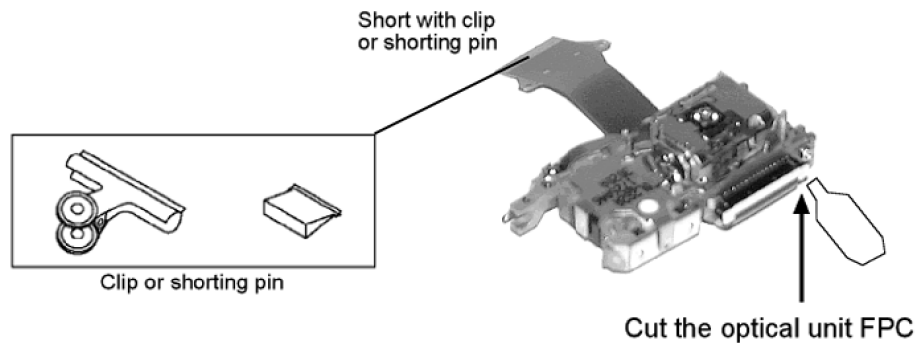
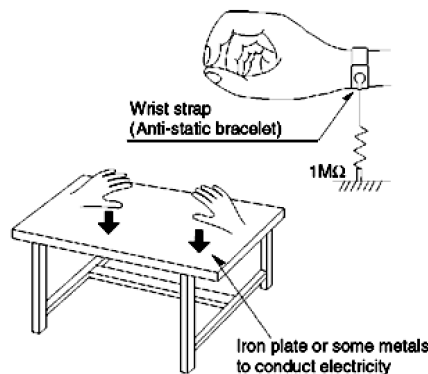

Fig. 7.1
Fig. 7.2
2. Short-circuit the flexible cable of optical pickup remove from the circuit board using a short-circuit pin or clip in order to prevent laser diode from electrostatic destruction (Refer to Fig. 7.1 and Fig. 7.2)
3. Do not handle flexible cables forcibly as this may cause snapping. Handle the parts carefully (Refer to Fig. 7.1)
4. A new optical pickup is equipped with an anti-static flexible cable. After replacing and connecting to the flexible board, cut the anti-static flexible cable. (Refer to Fig. 7.1)
Use the anti-static wrist strap to discharge the static electricity accumulated in your body. (Refer to Fig. 7.2)
Place a conductive material (conductive sheet) or ironboard where optical pickup is placed. (Refer to Fig. 7.2)